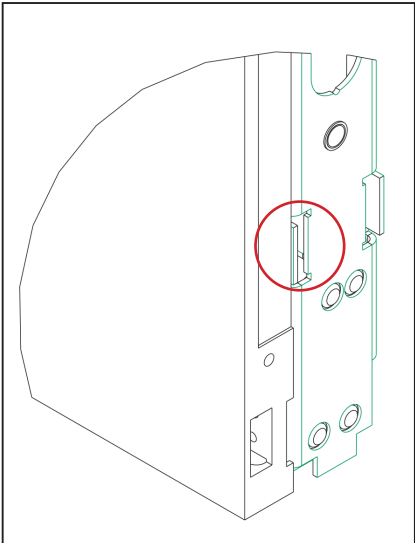

Figure 22: Ensure Alignment Tabs Do Not Protrude Past Display Edge
6. Push the panels together and verify the far-left and far-right frame alignment tabs are not protruding beyond the display limits. Refer to **Figure 22**. Shift the panels left or right as needed.